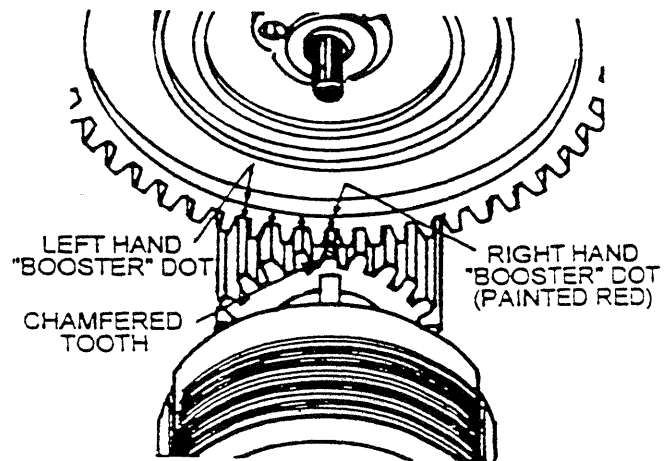

Figure 907. Correct Meshing of Distributor and Drive Gears – Clockwise S6RN Type Magneto With Retard Contact Illustrated
9.2.4 Assemble Rotor (54) Into Housings (48, 50)
- A. Lightly coat housing pole shoes and rotor pole pieces with silicone-free rust preventive. Spread 3 drops of SAE No. 30 oil on surface of sleeve bearing (69). Position rotor (54) in distributor housing (48), being careful not to damage cam as it enters contact compartment.
- B. Mesh distributor gear (72) with pinion gear (67) such that chamfered tooth of pinion gear (67) aligns with mark painted in accordance with paragraph 7.2.2 step E. See Figure 907.
- C. Form coil lead at a right angle with magneto housing so it can be threaded through passage in distributor housing and into breaker compartment. Position gasket (49), if used, between housings (48 and 50). Push housings straight together, allowing rotor shaft to extend through magneto housing. Be sure bearing parts mate properly. Do not allow housings to twist or turn as this may break carbon brush or dislodge coil lead. See that carbon brush rests on coil high voltage terminal and secure housings together using screw with lockwashers (47) tightened with seating torque of 4 to 8 in-lbs. When all screws have been seated, finally tighten to 25 to 35 in-lbs. of torque and recheck to make certain magnet turns freely and has correct bearing play. Refer to paragraph 9.2.1, Step G.
9.2.5 Install Contact Assemblies (39)
- A. Before installing new contact assemblies (39), check follower felt for adequate lubrication by squeezing felt tightly between thumb and forefinger. If fingers are moistened with oil, felt is adequately lubricated and no more oil is needed. If not, apply three drops of Breaker Felt Lubricant 10-86527 to the felt pad. Allow about 30 minutes for oil to penetrate into felt and for thinner to evaporate. Avoid getting oil on contacts. Blot off excess oil with a clean cloth.